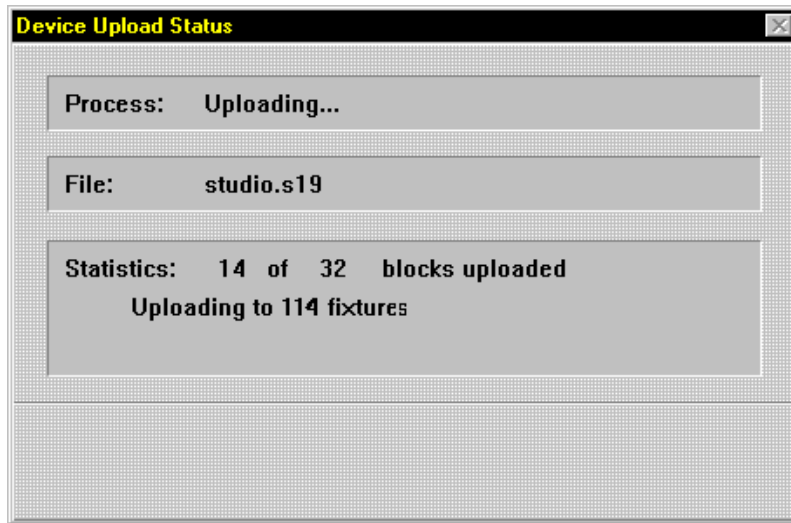

Figure A.3. Device Upload Status Information Window
5. Click the **OK** button to start uploading. This brings up the **Device Upload Status** information box. Refer to Figure A.3. During the upload, the fixture's display will quickly flicker and display `UPLD` to indicate it is uploading. The **Device Upload Status** dialogue box indicates the number of fixtures that are being uploaded and the progress of the upload.